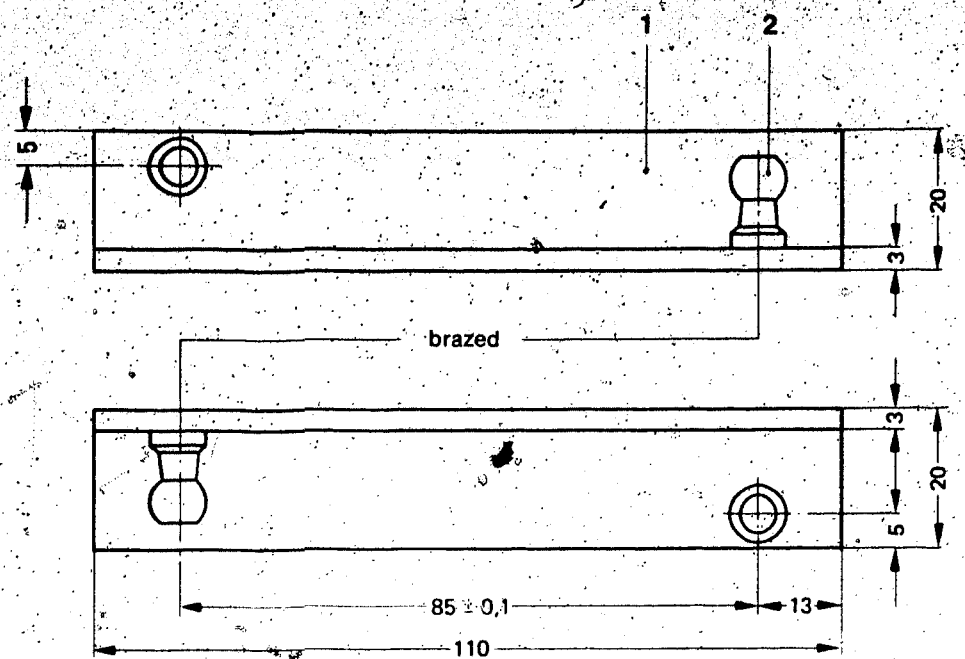
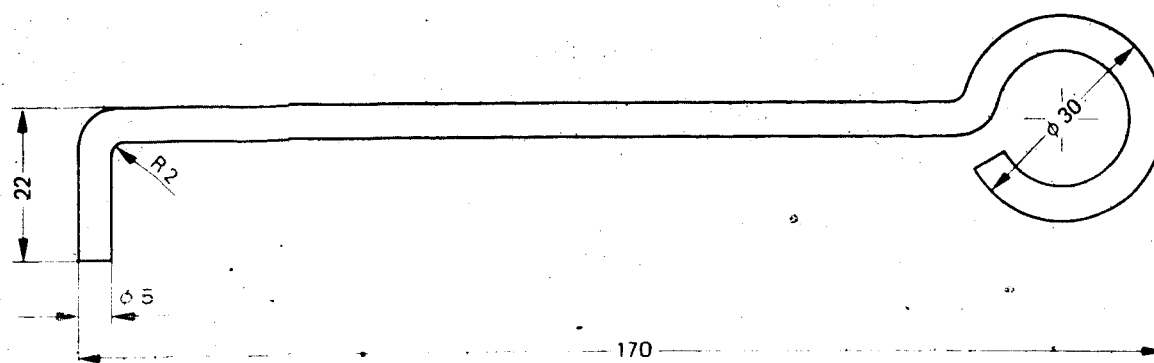
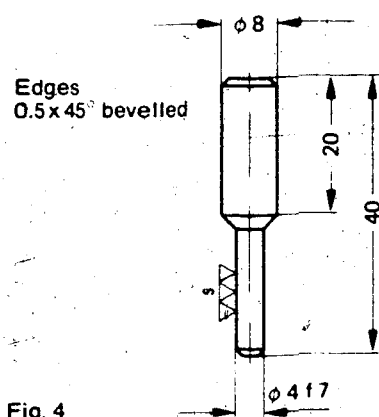

Fig. 2
Fig. 3
Fig. 4
The connecting rod between the control lever and reverse-transfer lever must be set to 85 mm, in each case center of locating hole for ball heads. If necessary, manufacture a gauge as per Fig. 2.
Remove pivot pin (1) from reverse-transfer lever (2). Adjust the tie rod and connecting rod to 289 mm and 85 mm respectively (as per Fig. 2). Firmly locate pump control lever (3) with the 5 mm dia. draw hook (as per Fig. 3) in the lower slot. Adjust stop screw (4) such that pump control lever (3) is just contacted. Press accelerator pedal (5) against full-load stop (6). Adjust pivot pin (1) such that it can be suspended stress-free in the hole in reverse-transfer lever (2). Secure the pivot pin and remove the draw hook from the pump control lever.
Remove the cover from the throttle-valve assembly. Unscrew the adjusting screw (next to the vibration pipe of cylinder 2) until the eccentric is no longer contacted. Loosen the 2 clamp screws below the throttle-valve assembly. Using a 5 mm dia. hook (if necessary, manufactured as per Fig. 3), firmly locate the pump control lever through the upper slot in the hole in the pump housing. Insert a 4 mm dia. dowel pin (if necessary, manufactured as per Fig. 4) into the hole between the eccentric and housing. Press the eccentric against the dowel pin. Press the eccentric downward and retighten the 2 clamp screws below the throttle-valve assembly. Remove the dowel pin and hook from the control lever. Synchronization is correct if the eccentric slightly covers the hole for the dowel pin. Using the adjusting screw on the exterior of the housing next to the 2nd vibration pipe, adjust the idle speed to 900 ... 950 rev/min. Secure the adjusting screw.